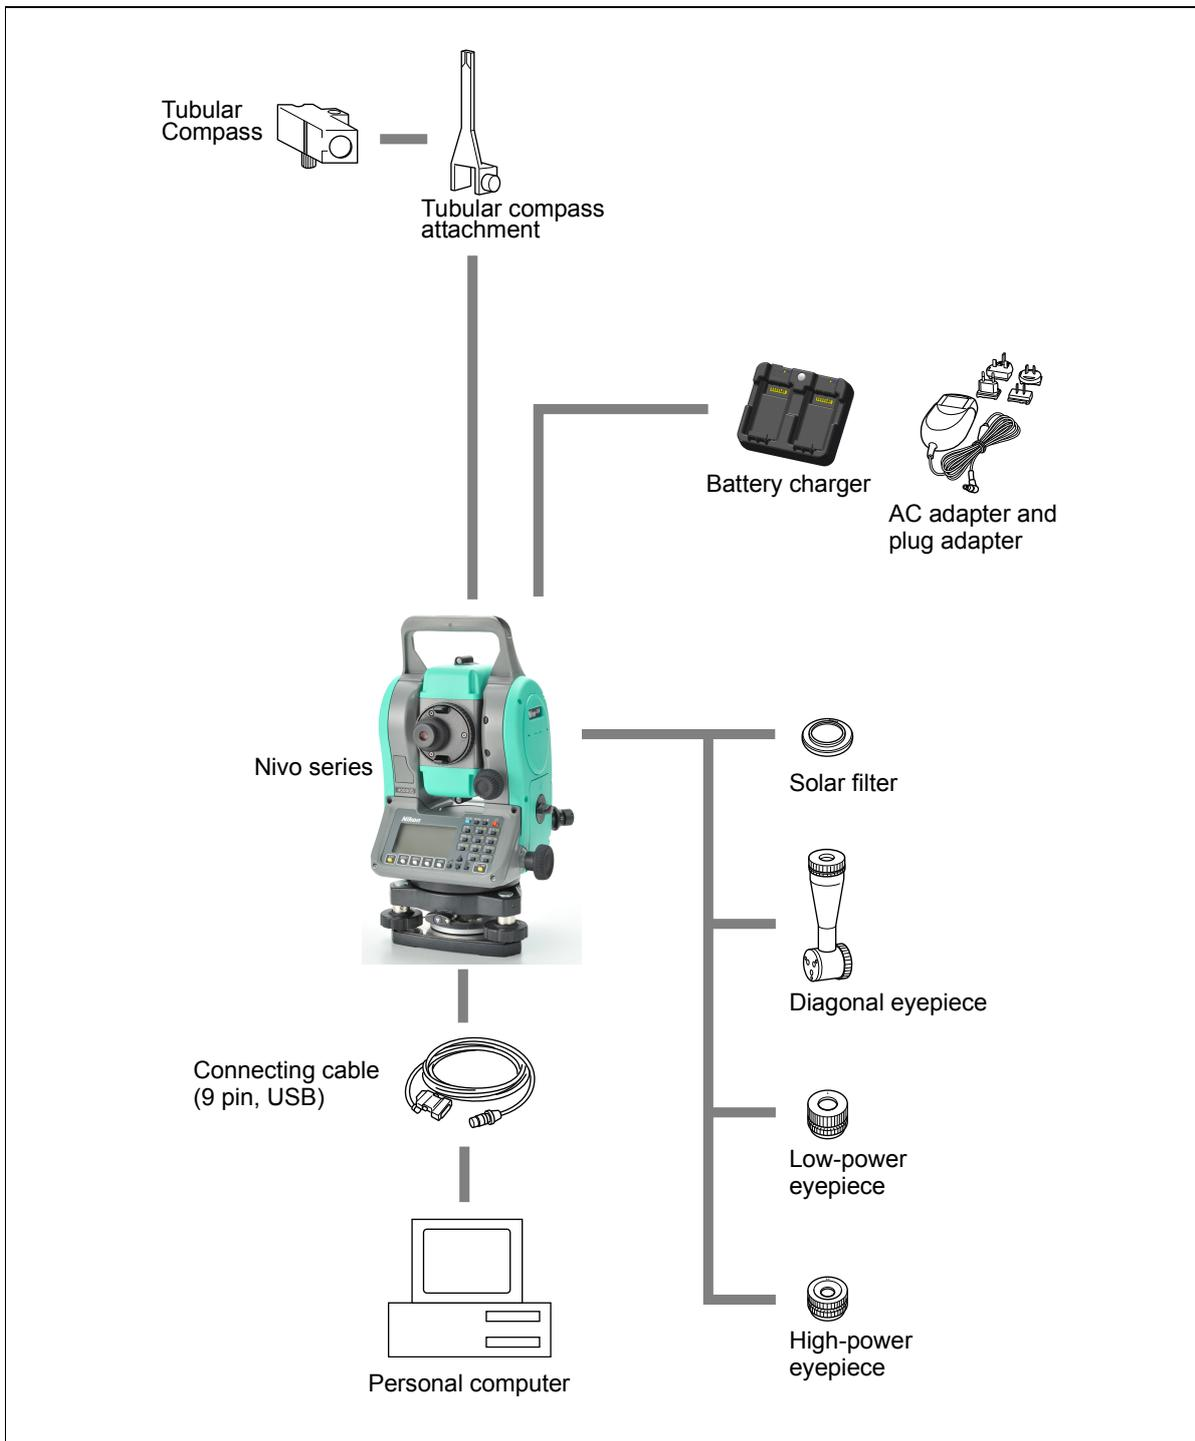

Figure 8.1 Measurement side
**CAUTION** – Except for the connection shown in Figure 8.1 on page 150, use of this connector is at your own risk.